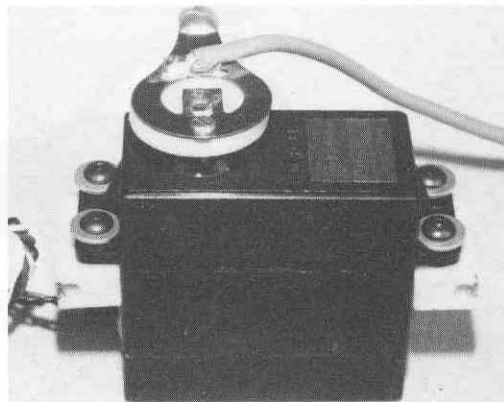

Fig. 168
□ **Fig. 168** Follow the first part of step 155 to determine the mounting position of the wiper. Mount the wiper as shown.